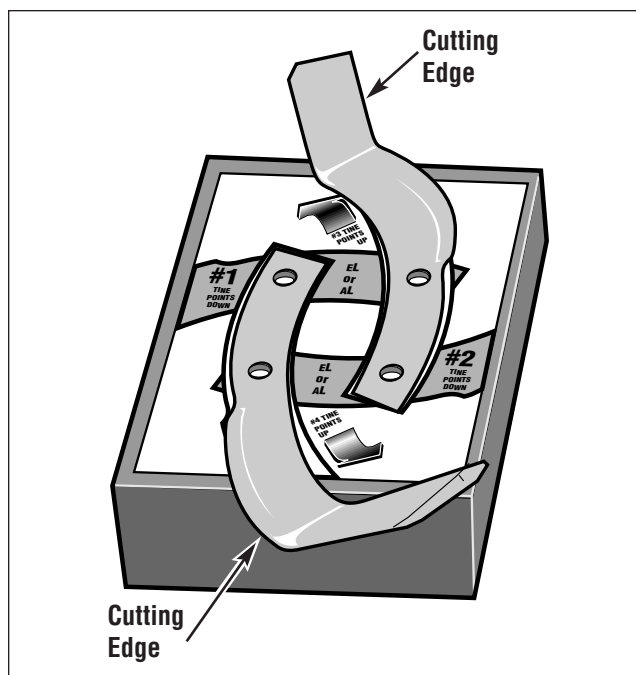

Figure 17: Assembly of a "B" gang.
B. Place two *right-curved* tines (shown in Figure 17 on Page 10) onto the template so that the tines cover outlines of tines #3 and #4. The tips of these tines point *upward*.